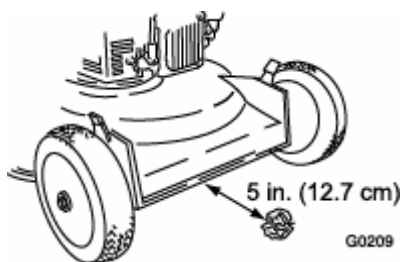

Figure 15
5. Take a half sheet of newspaper and crumple it into ball small enough to go under the deck (about three inches or 76 mm in diameter) as shown in Figure 15.
6. Place the ball of newspaper five inches (12.7 cm) in front of the lawn mower (Fig. 15).